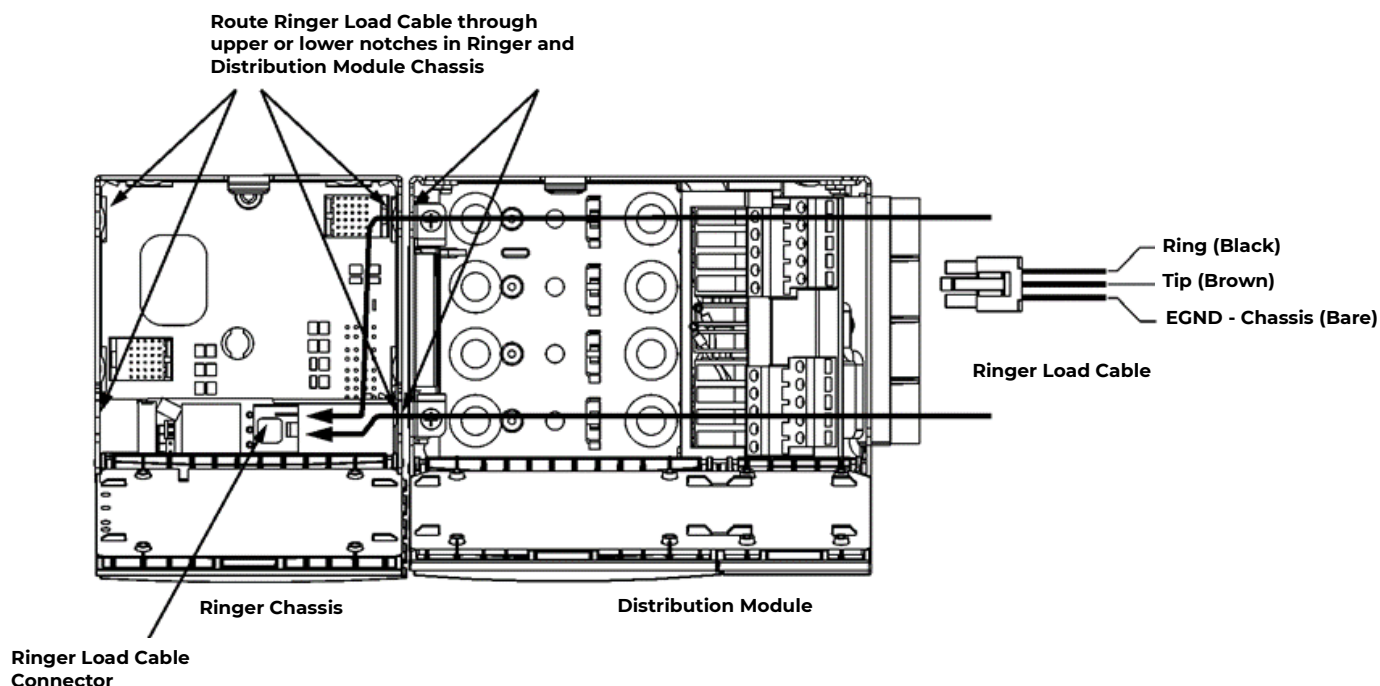

Figure 5-18: Ringer Load Cable and Routing
9.	Route ringer load cables through upper or lower notches in Ringer chassis and distribution module chassis. See Figure 5-18.